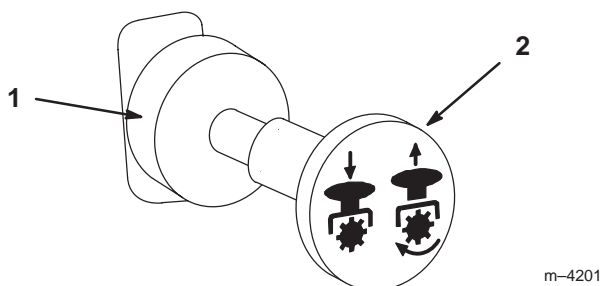

Figure 18
3. Pull out on the power take off (PTO) switch to engage (Fig. 18).
1. To disengage push the PTO switch to the off position (Fig. 18).